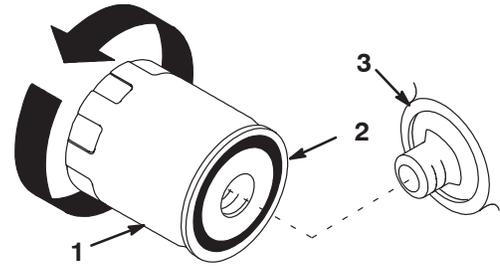

Figure 20
9. Change the oil filter, if necessary (Fig. 20).
2. Remove the old filter and wipe the filter adapter gasket surface (Fig. 20).
3. Apply a thin coat of clean oil to the rubber gasket on the replacement filter (Fig. 20).
4. Install the replacement oil filter to the filter adapter. Turn the oil filter clockwise until the rubber gasket contacts the filter adapter; then tighten the filter an additional 1/2 to 3/4 turn (Fig. 20).